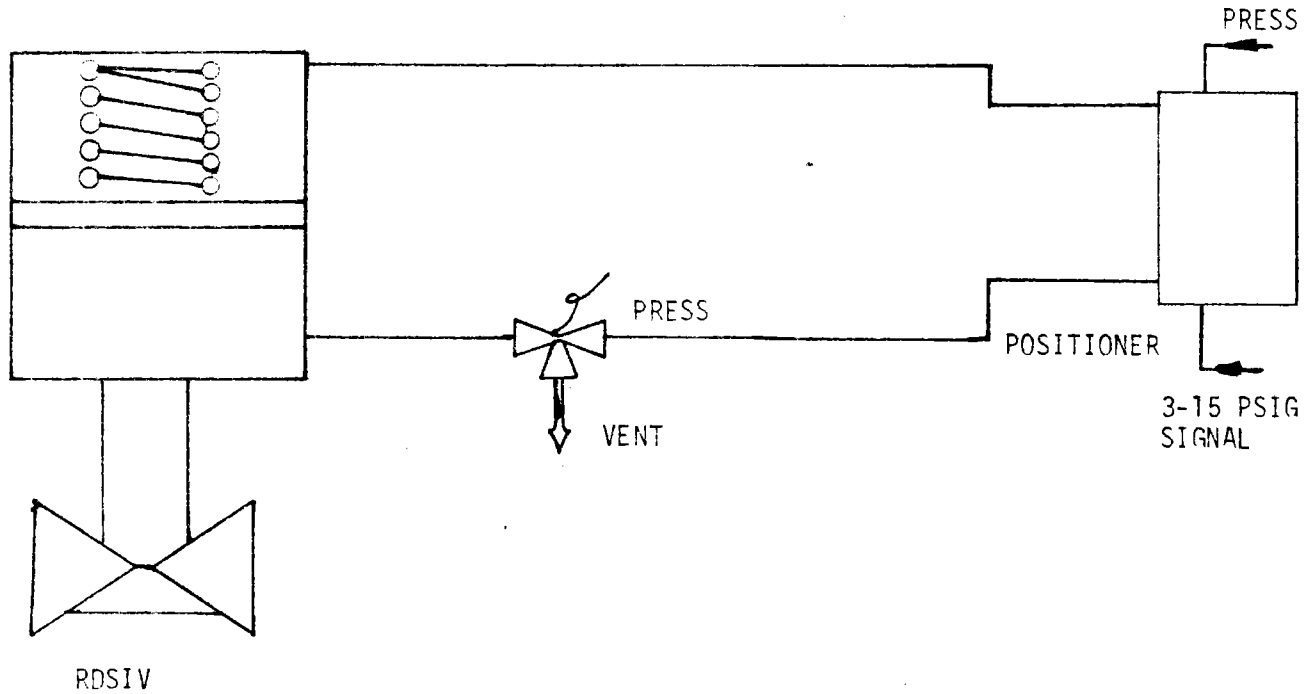

FIGURE 3.
- 3. OVERRIDE - SEE DETAIL FIGURE 3